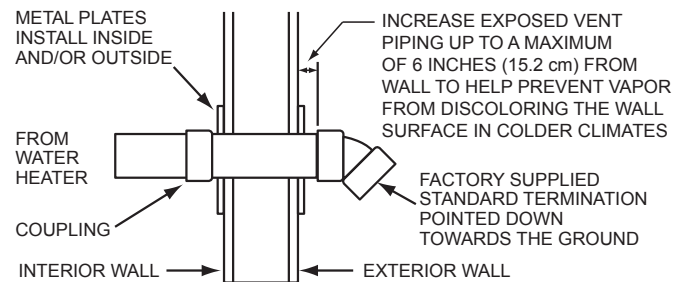

Figure 26. Side-Wall Termination Installation
9. Cut a length(s) of pipe being installed 3.5 inches (8.9 cm) to 9.5 inches (24.1 cm) longer than the wall thickness at the opening. See *Figure 26* (page 32).
12. Working from outside, slide the pipe and termination(s) assembled in the above steps through the wall. Ensure the termination(s) is pointed down towards the ground. See *Figure 26*.
16. Install a coupling to the end of the pipe(s) inside the building. Before the silicone caulking has time to completely set go outside the building and ensure the termination(s) is still pointing down towards the ground. See *Figure 26*.